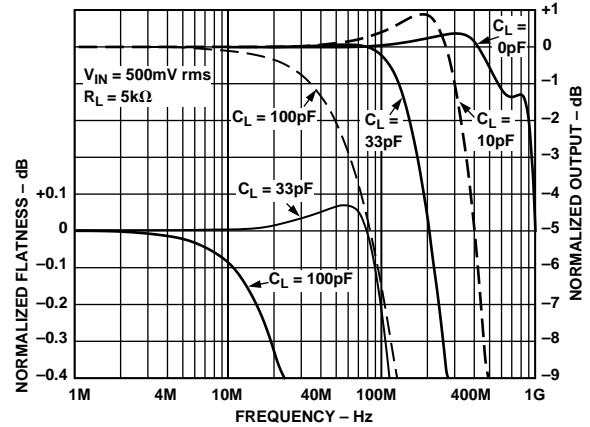

Figure 19. Frequency Response vs. Capacitive Load
- NOTE 4: Decreasing R_L lowers the bandwidth slightly. Increasing C_L lowers the bandwidth considerably (see Figure 19).